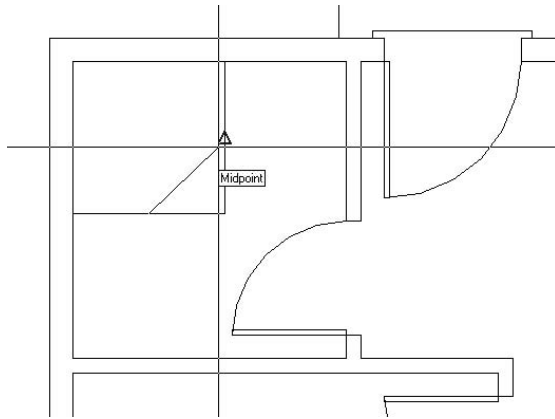

FIGURE 5.27: Using Midpoint Osnap to complete a line across the corner of the shower
3. Move the cursor near the midpoint of the right side of the rectangle until you see the triangle appear at the midpoint location (see Figure 5.27). Click again. Press ↵ to end the Line command.